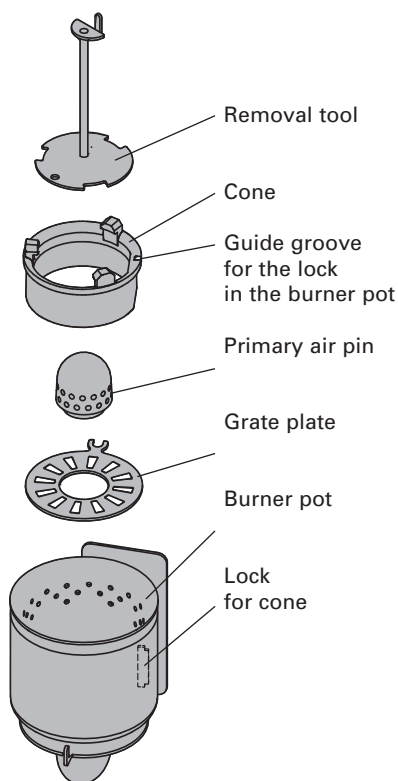

Fig. 128 Burner pot
- Lift out the cone using the removal tool – Fig. 128.
- Place the cone into the burner pot using the removal tool. The grooves in the cone must project into the lock of the burner – Fig. 128.